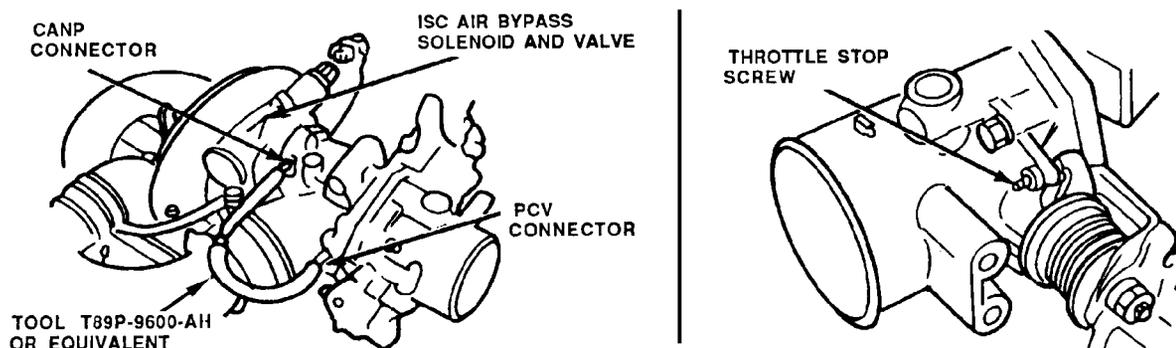

Figure F050-14
8. Turn the throttle stop screw (Figure F050-14), to set the idle speed to 800 ± 30 rpm.